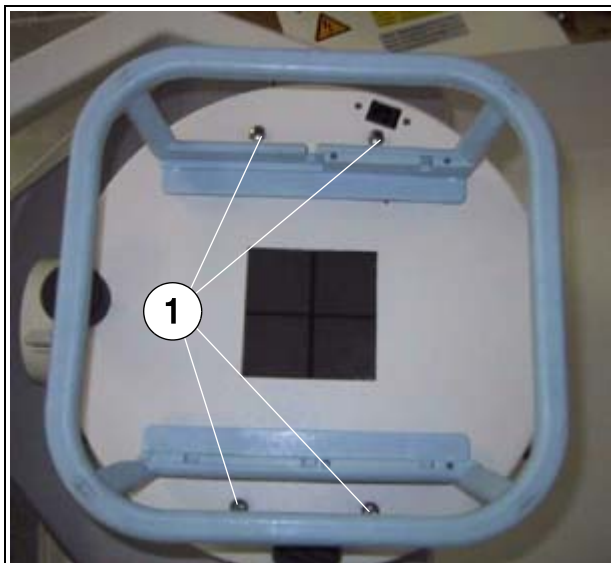

Fig. 86: Collimator cover
- Open the collimator cover (1/Fig. 86 / p. 90).